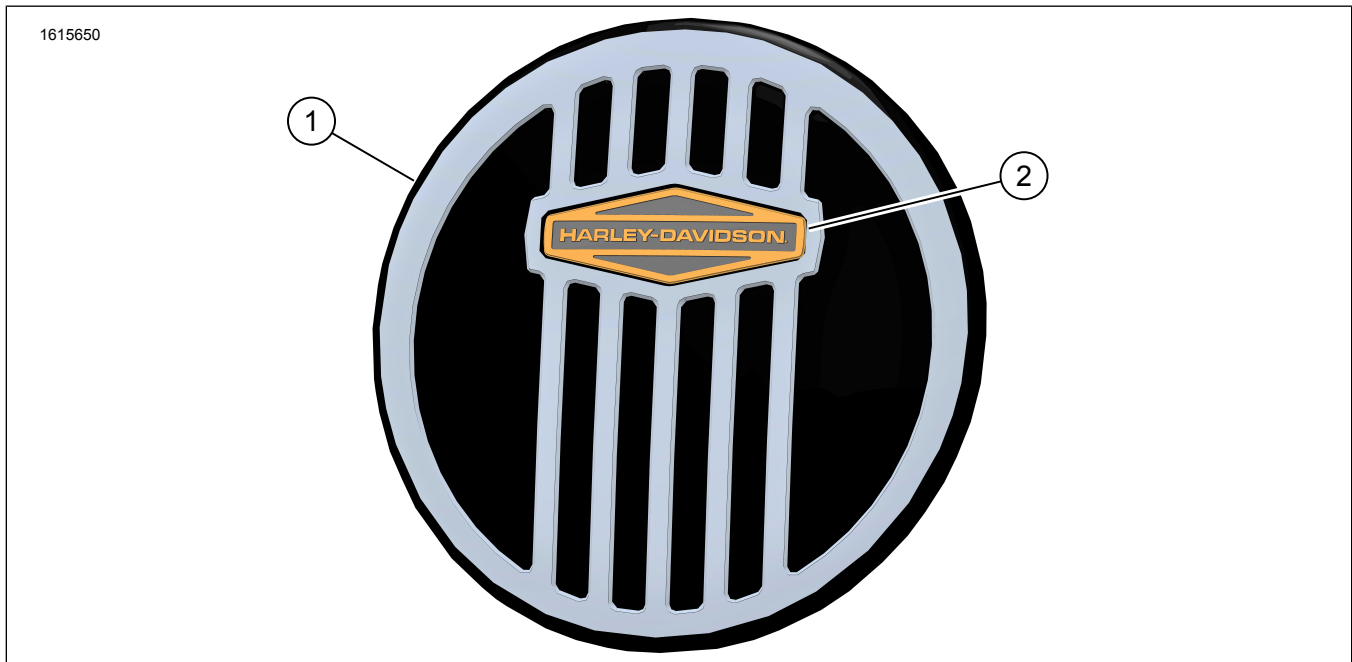

Figure 1. Kit Contents: Console Cover Kit
1. See Figure 1. Bond medallion (2) to console cover (1).